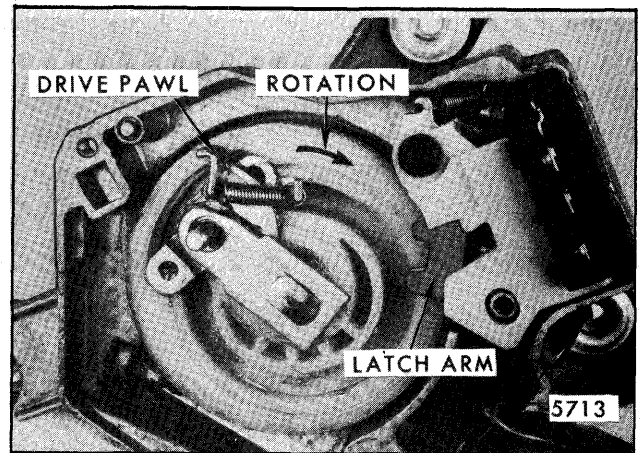

Fig. 2-9-Gear in Normal Run Position
- into the path of the gear mechanism (Fig. 2-9). However, the gearbox relay switch contacts are still closed and therefore the B plus circuit to the pulse relay is still maintained.
3. If wiper gear drive pawl is not in full park position (Fig. 2-9), remove relay attaching screw and lift relay-terminal board assembly out of gearbox.